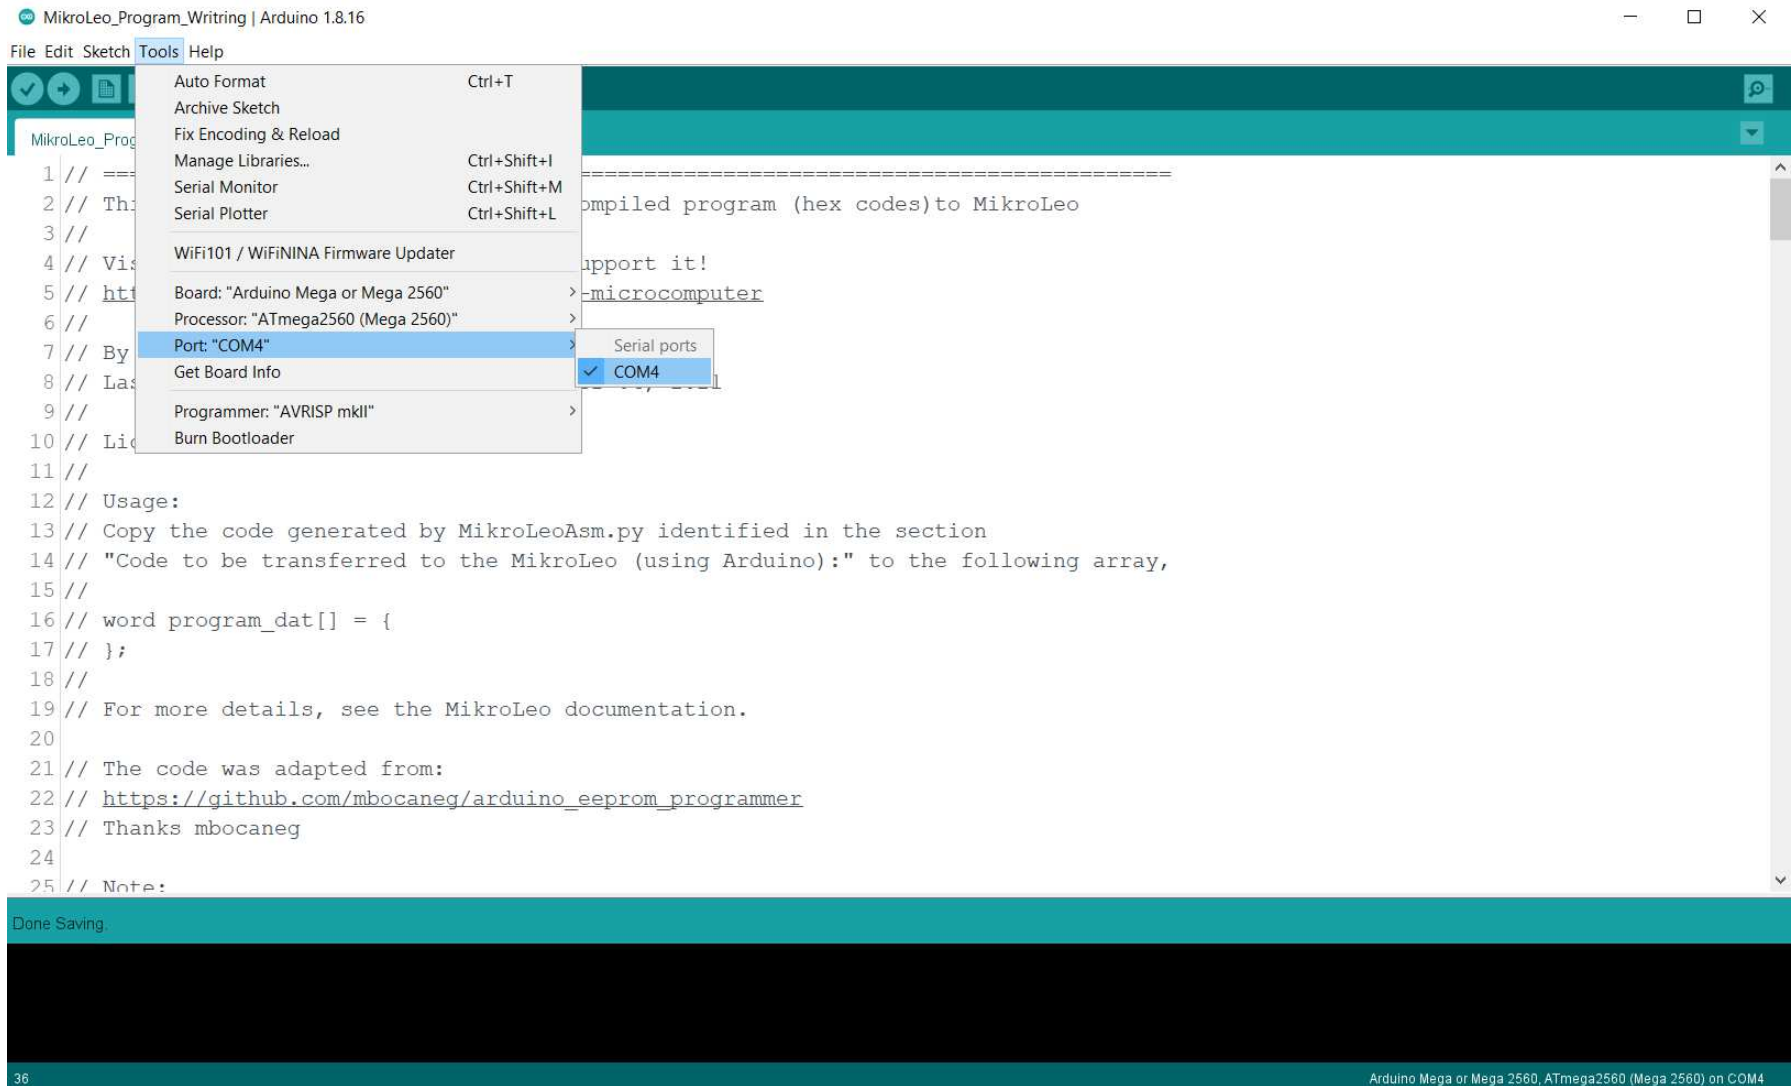

Figure 5 - Select the COM port
4) Select the COM port - Figure 5